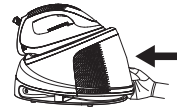

Fig.4
2. Grasp the water tank handle and then pull out the water tank horizontally, fill the water tank with water through the filling aperture and then replace the water tank well in position (see Fig.4). Make sure the water tank shall be pulled out horizontally when removing the water tank. You had better use purified water with less calcium particles. The maximum capacity of water tank is 1.2L, the water level shall not be exceeded the maximum level.